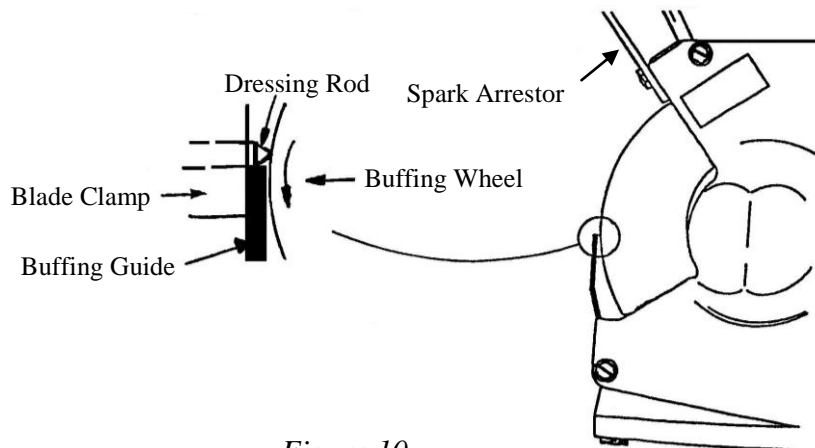

Figure 10
8.3.9 Buffing Wheel Dressing And Truing (See Figure 10)